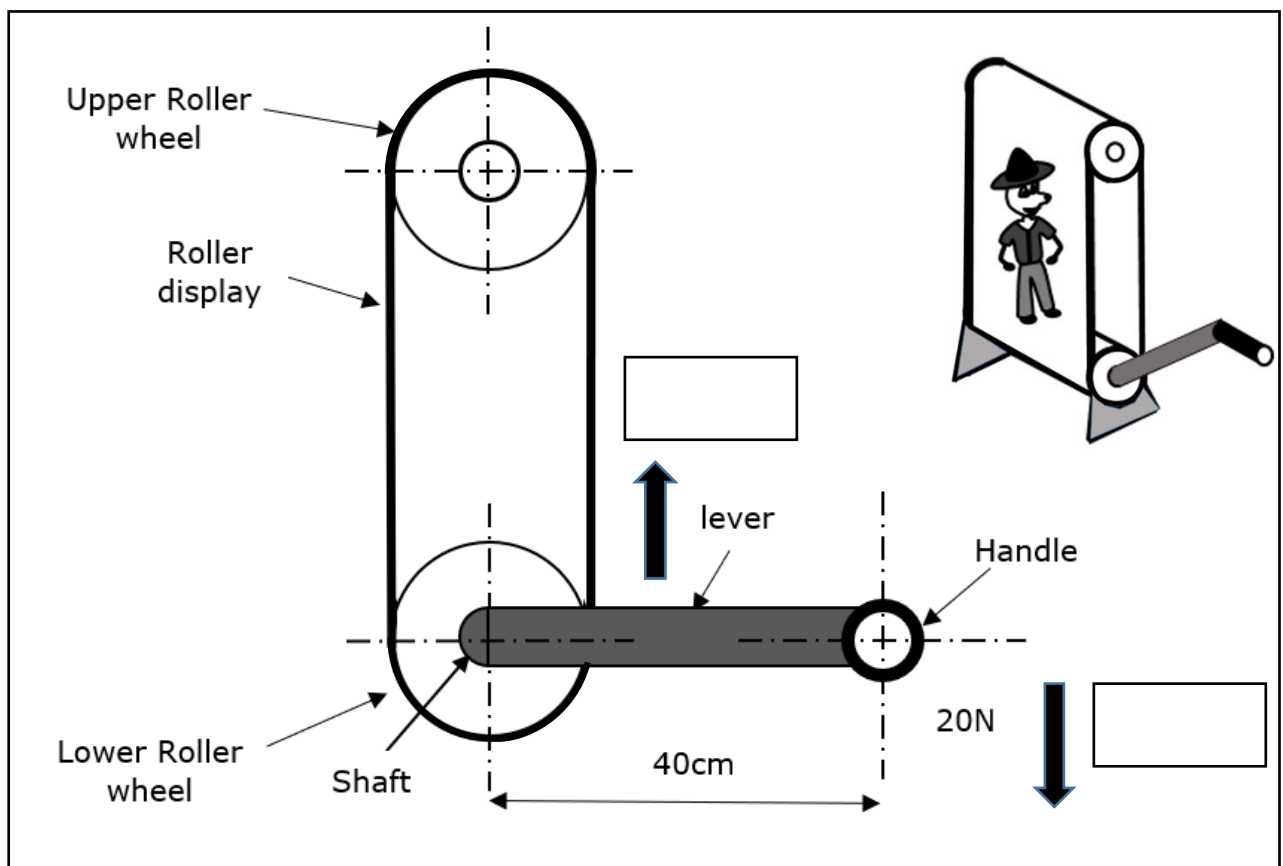

Figure 7
18. A roller display installation is placed in the kids' playing area. Figure 7 shows the side view and pictorial illustration of the roller display installation mechanism.
a. Which type of class lever is represented by the crank lever shown in Figure 7?
b. On Figure 7, label the arrows identifying the effort and load in the spaces provided. (1)
c. Calculate the moments being applied to the shaft of the lower roller wheel shown in Figure 7, when turning the handle clockwise with a force of 20 N. (3)
19. The interactive roller display mechanism mentioned in Figure 7 has been modified to work with a DC motor.